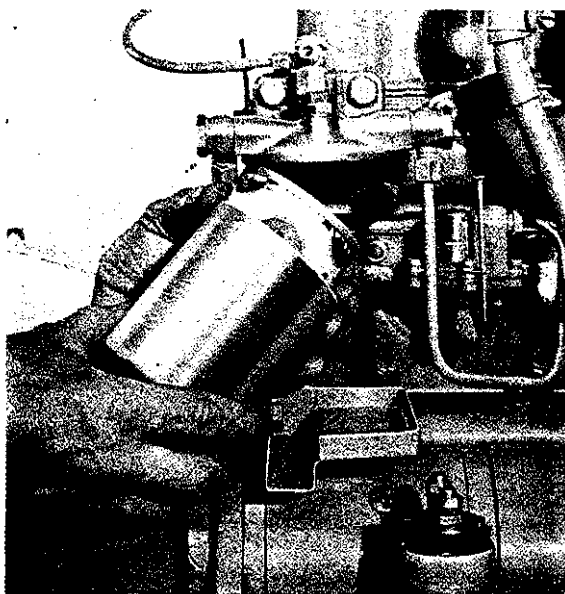

Fig. 25—Dismantling Fuel Filter
2. Drop filter bowl clear. (See Fig. 25).